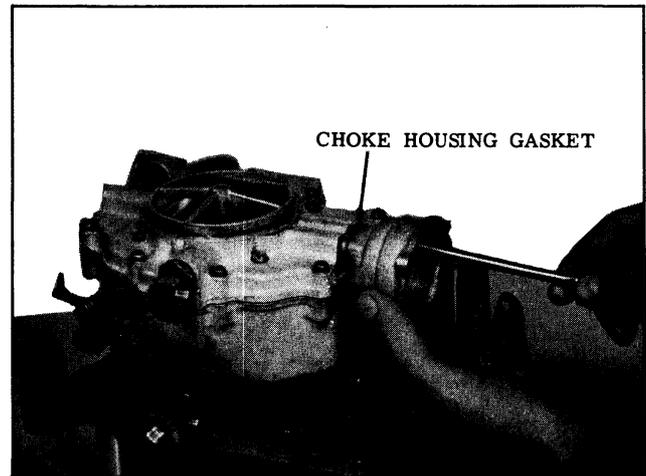

Fig. 8-138 Installing Choke Housing
5. Place new gasket in position and attach choke housing to air horn, tighten screws securely. (See Fig. 8-138)